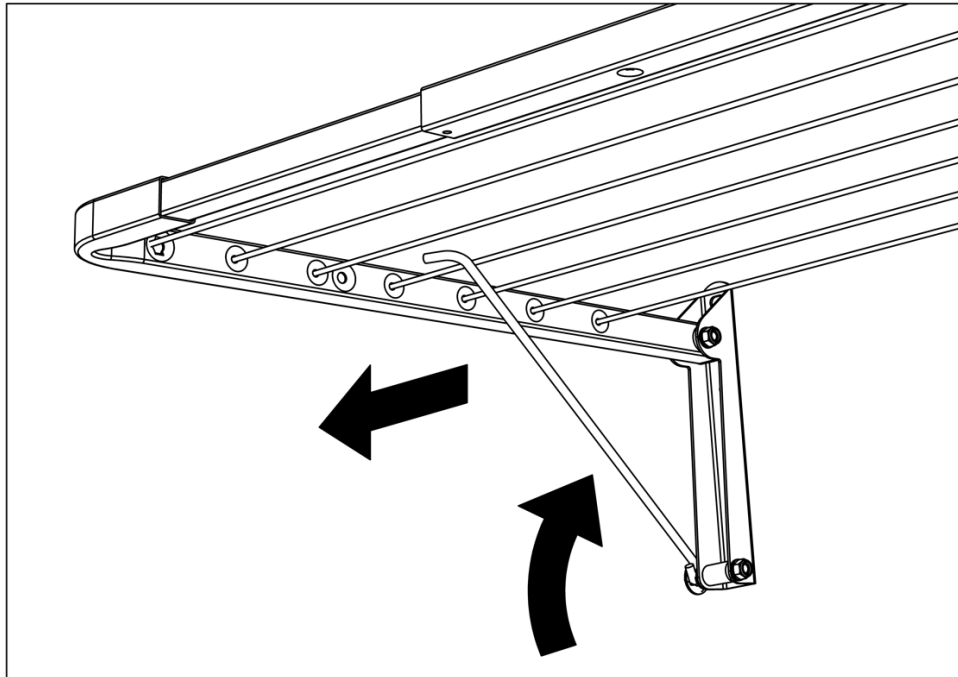

Fig 14. Setting up rear line.
- Moving to one side grab the wire stay and locate it into the hole in the smaller arm. (Fig 14)